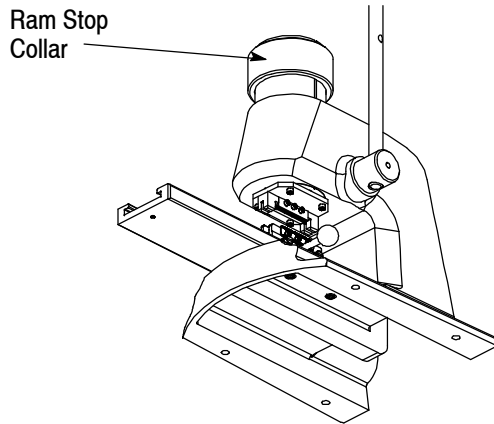

Figure 5
1. Install the upper tooling assembly onto the ram as shown in Figure 5.